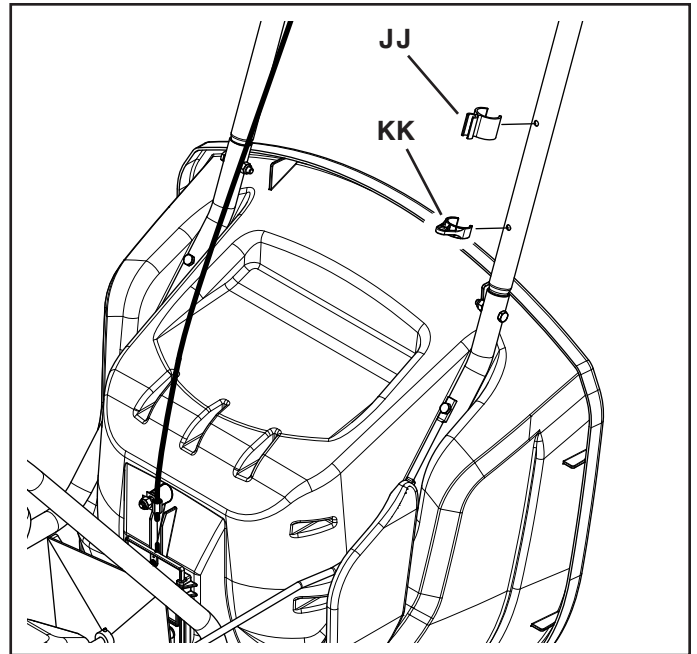

**FIGURE 8**
**STEP 8: (SEE FIGURE 8)**
- Attach the deflector rod (I) to the upper hole in the hopper tube using the original bolt, washers and nut that were removed. Attach the deflector rod to the empty middle hole in the hopper tube using a 1/4" self threading screw (EE).